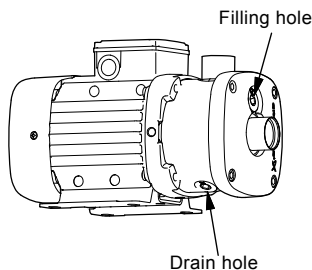

Fig. 10 Position of filling hole and drain hole
3. Remove the filling plug. See fig. 10.